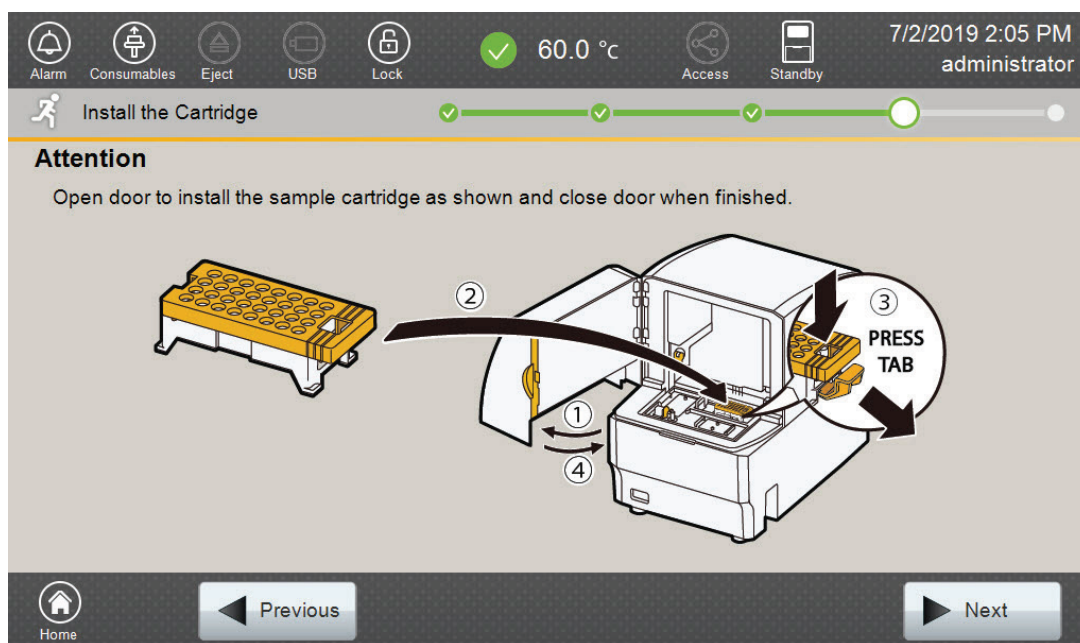

Figure 22. 'Install the Cartridge' screen.
2. Open the instrument door, and then place the sample cartridge on the autosampler following the instructions displayed on the 'Install the Cartridge' screen (Figure 22). Press down on the yellow tab on the autosampler deck that locks the sample cartridge in place before placing sample cartridge into position. Release the tab to lock the sample cartridge in place on the autosampler deck.